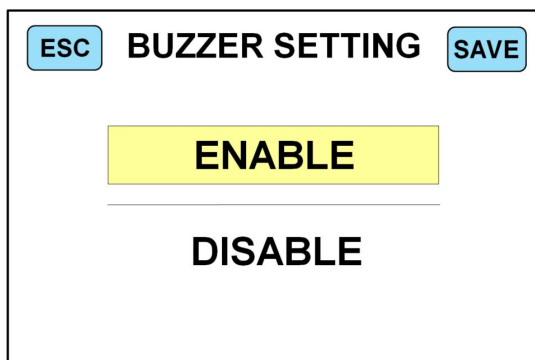

Figure 48
2) Touch “2. Buzzer On/Off” to enter the buzzer setting interface, as shown in Figure 48 below: